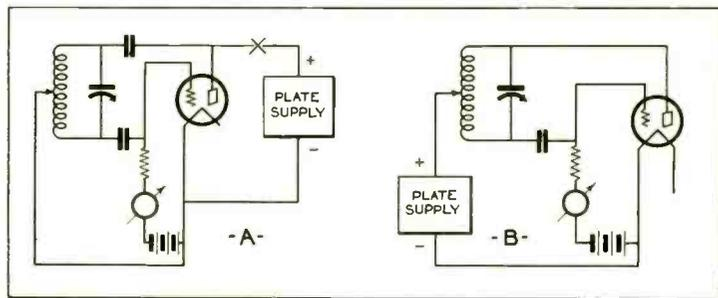

Fig. 4. Shunt-feed Hartley circuit. Series-feed Hartley circuit. Comparison of r-f. voltage with and without chokes.
creased. This effect can be studied by means of the two circuits shown in Fig. 4. The upper diagram (A) of a shunt-feed arrangement requires a choke but has certain other advantages; the lower diagram (B), is a series-feed arrangement which requires no choke coil, but has some practical disadvantages as has been described.